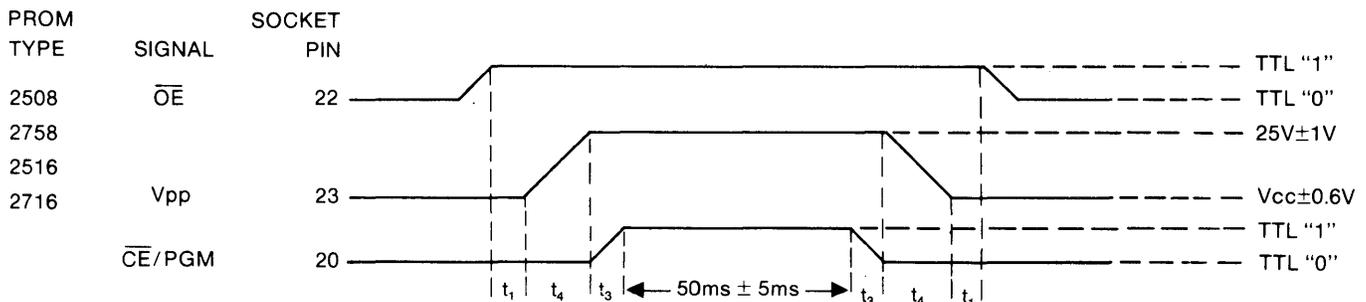

Figure 7-3. Programming Waveforms for Dynamic Test
**Key 7.** Press key 7 and ENTER. The M980 will display "F7 AAA," and the BUSY indicator on the PM9080 will be illuminated. This test puts the PM9080 into a continuous programming cycle. Check the appropriate pins for the programming waveforms below. The device selected by the hex switches will determine which of the waveforms in Figures 7-3 thru 7-8 will be generated.
**Key 8.** Press key 8 and ENTER. The M980 will display "F8 AAA." This test checks for shorts on Vcc, Vpp, address and data lines. If there are any shorts, "F8 E8" will be displayed for error. The OVERLOAD LED will illuminate if the short is on Vcc or Vpp. To repeat this test after an error is found, press ENTER. Press CLEAR to exit this test. The M980 will display "F8 F."
**TIMING NOTES FOR FIGURES 7-3 to 7-8**